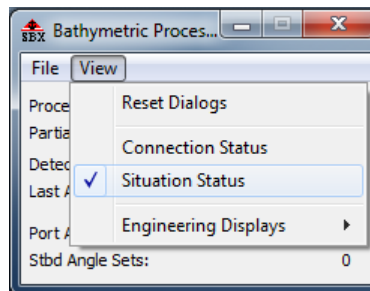

Figure 18: Selecting the Appropriate Ports
5. Ensure the correct supporting information is being inputted to the system on the appropriate COM ports by choosing *View > Situation Status* on the Bathymetric Processor main window (Figure 18 and Figure 19).